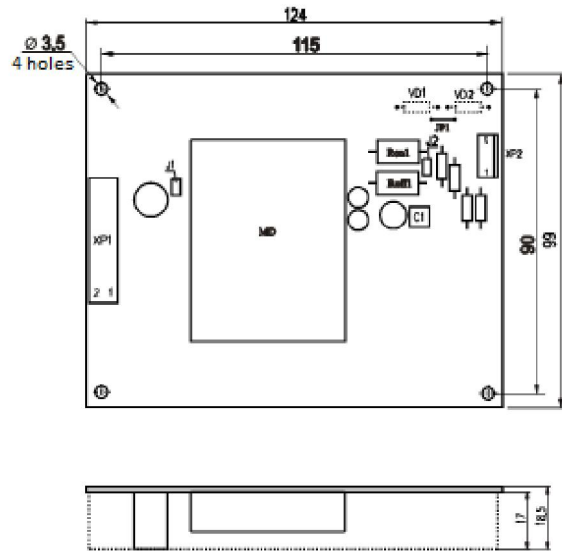
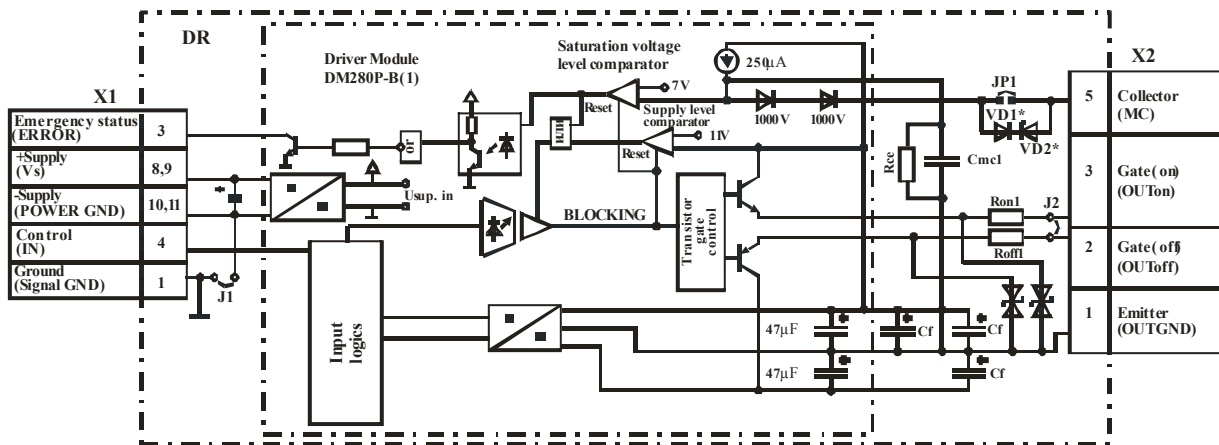

Figure 1 – Overall drawing
Figure 2– Functional circuit and driver turn-on circuit
3.1 Overall drawing is shown at Figure 1, driver functional circuit and turn-on circuit are presented at Figure 2.